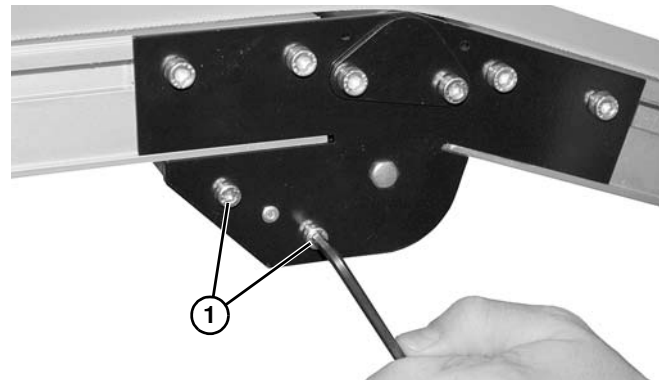

Figure 82
3. Install screws (**Figure 82, item 1**) on both sides of conveyor.